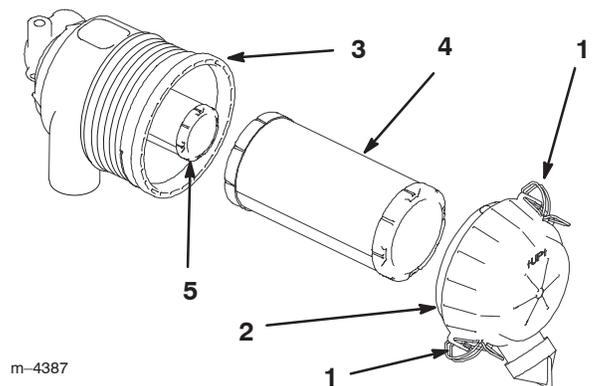

Figure 58
- Release the latches on the air cleaner and pull the air cleaner cover off of the air cleaner body (Fig. 58).
- Gently slide the primary filter out of the air cleaner body (Fig. 58). Avoid knocking the filter into the side of the body. Do not remove the safety filter, unless you intend to replace it as well.